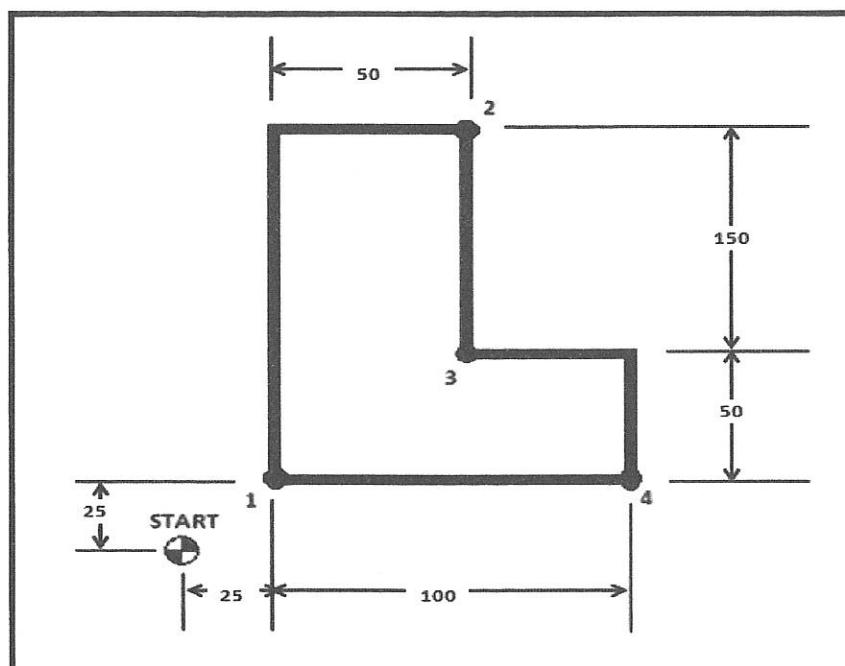

Figure 3c / Gambarajah 3c
- (c) Determine the X and Y coordinates for the point on the work object in Figure 3c below using: